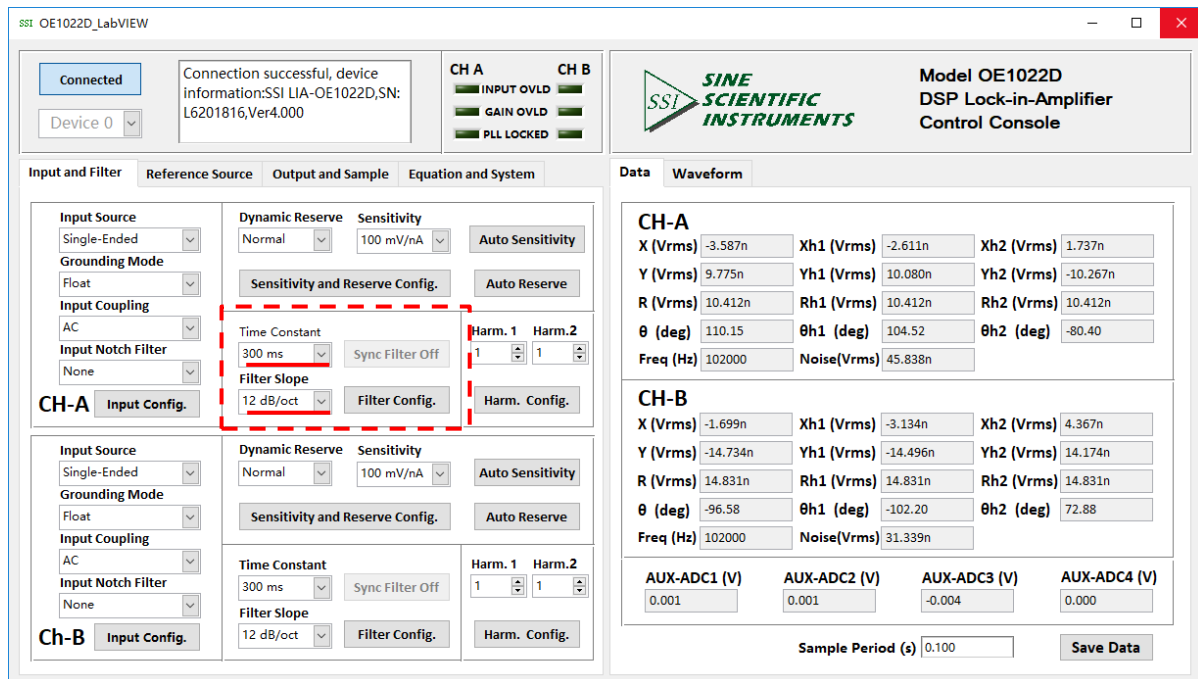

Fig.76 Filter Configuration
2. As shown in Fig.76, select suitable options for 'Time Constant' and 'Filter Slope' as required. Leave other options as initial state for now. Click the button **Filter Config.** to finish the configurations.
in Fig.76. Click the button **Reference Config.** to finish the configurations.